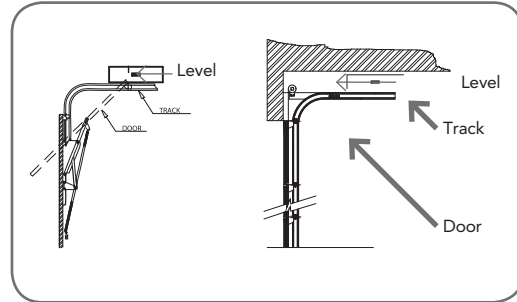

fig 16
- Using a level, transfer this height to the wall above the door (**Fig. 16**) and mark a line 60mm above it.